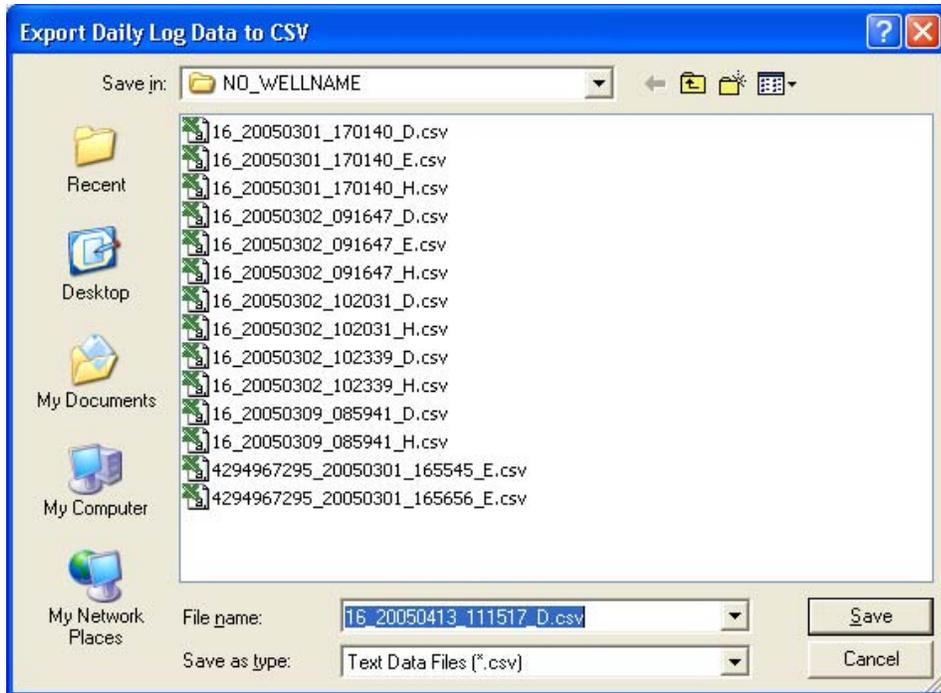

Figure 5.13—Default directory for exported log files
2. When the “Export Daily (or Hourly) Log Data...” window appears, click “Save.” By default, exported logs are saved in C:\NuFlo log data\MC-III<WELL NAME>, however the user can specify a new location, if desired (*Figure 5.13, page 81*). The “wellname” folder will bear the well name that appears on the Wellsite Information screen. If no well name is entered on this screen, the folder will be named “NO\_WELLNAME.”